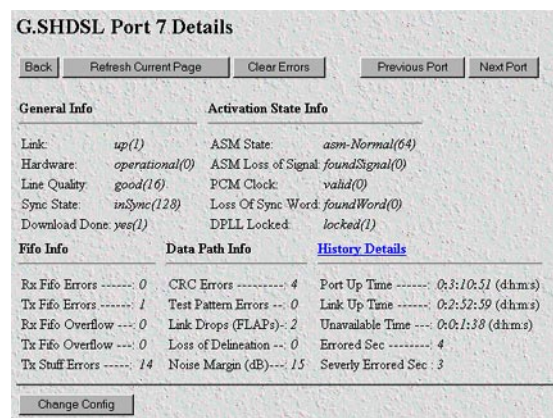

Figure 34. G.SHDSL Port 7 Details page
2. On the Configuration Information pane, under the column titled “Port #,” click on the number hyperlink for the port you wish to activate to display the G.SHDSL Port # Details page (see figure 34).